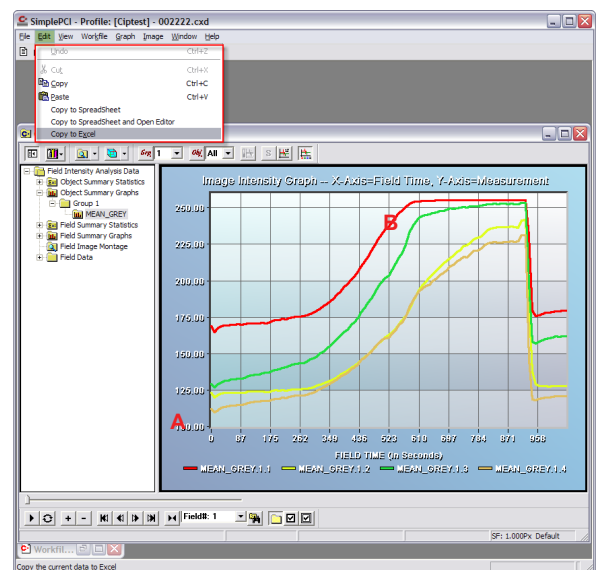

fig.1
2. Expand Field Data and select **Original Image** (fig.1.A)